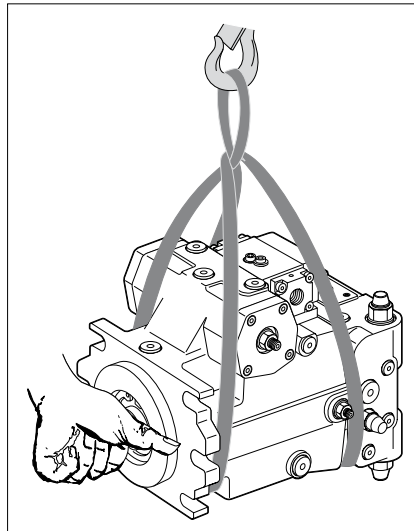

Fig. 16: Transport with lifting strap
- ▶ Place the lifting strap around the axial piston unit in such a way that it passes over neither the attachment parts (e.g. valves) nor such that the axial piston unit is hung from attachment parts (see Fig. 16).